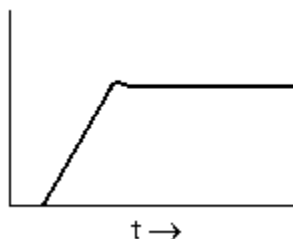

**FIGURE 2**
- Peak Pulse Power ( $P_{PP}$ ) at 25°C: 130 kW at 6.4/69 μs per waveform in Figure 8 (derate per Figure 2)